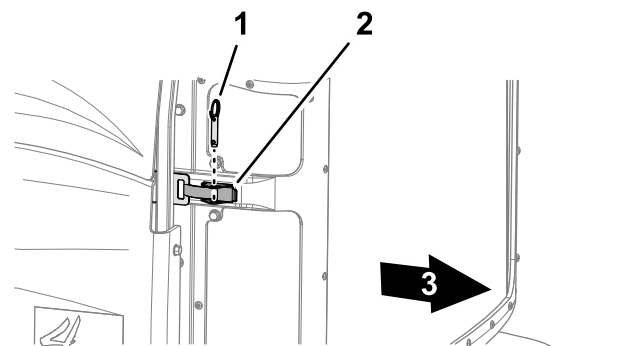

Figure 64
2. Remove the ball pin from the screen latch (Figure 64)